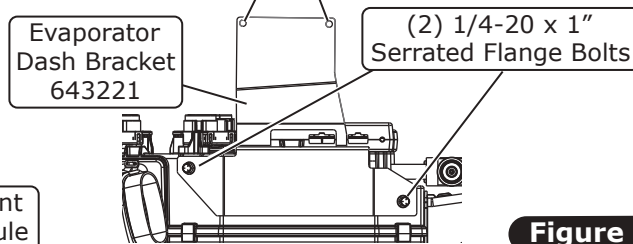

Figure 2
4. Install (2) 1/4-20 well nuts into the front mounting holes on the evaporator module (See Photo 3, below).
5. Using (2) 1/4-20 x 1" serrated flange bolts, install the evaporator dash bracket onto the evaporator module (See Figure 2, below). **NOTE: To ensure proper drainage, it is very important that the evaporator module is level, both left-right and fore-aft. Check for level on the flat portions of the case around the drain.**
6. Once the module is in position and level, use the bracket as a template to mark and drill (2) pilot holes (See Figure 2, below). Secure the evaporator dash bracket to the cowl using (2) #14 x 3/4" washer head screws.